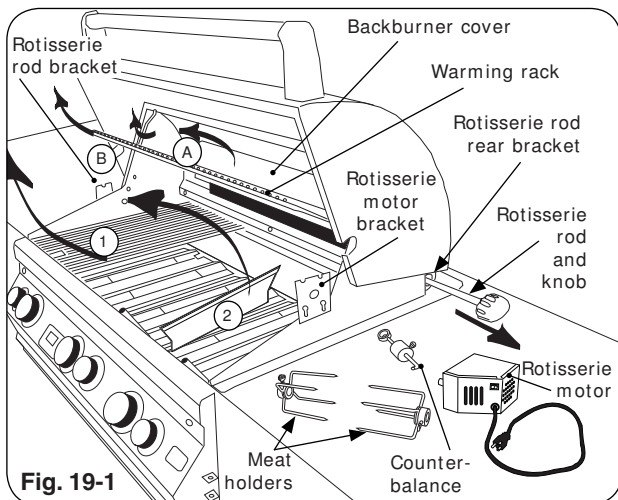

Fig. 19-1
2. Slide rotisserie motor fully onto motor bracket (right side, Fig. 19-1 and 19-2).
3. Remove rotisserie rod from rear bracket (Fig. 19-1) and attach knob if necessary.